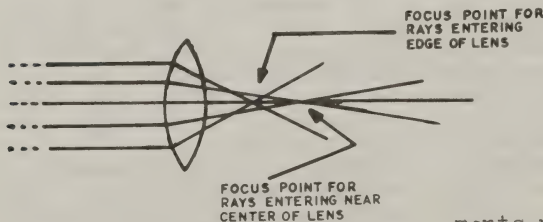

Fig. 6 Spherical Aberration
**LENS DEFECTS:** A number of factors limit the effective resolution from any lens system. Probably the two most common are spherical aberration and chromatic aberration. In the case of the first, the difficulty is caused by spherical grinding, a method used not because it produces the most perfect lenses but because it is the most practical for machines to handle. In this case the rays approaching near the axis are focused at a different point than for rays approaching near the edge of the lens. (Fig. 6) Best focus is always a compromise and never perfect. The condition can be improved by "stopping down" the lens or in other words partially closing the variable aperture. This prevents light rays from entering too near the outer edge of